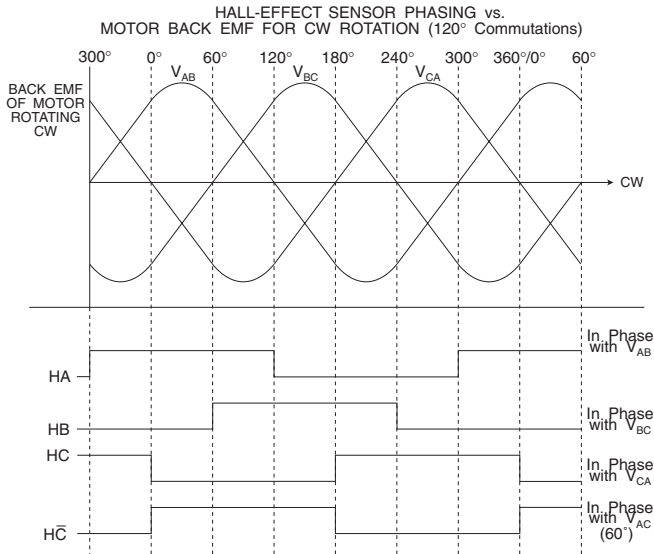

FIGURE 4. HALL PHASING
The PWR-82520X will operate with Hall phasing of 60° or 120° electrical spacing. If 60° commutation is used, then the output of HC must be inverted as shown in FIGURES 4 and 5. In FIGURE 4 the Hall sensor outputs are shown with the corresponding back emf voltage they are in phase with.
** DIR is based on the convention shown in FIGURE 4.